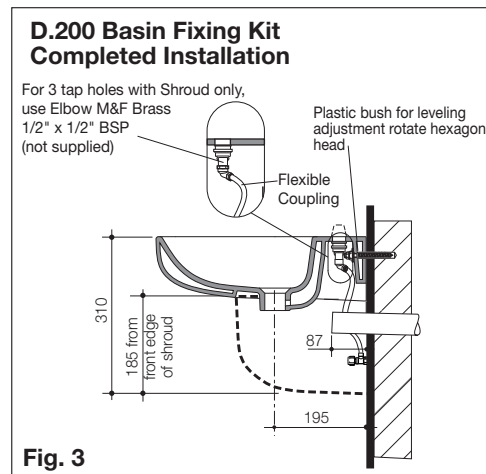

Fig. 3
- 4- Locate basin onto the Fixing Screws on the wall. Insert plastic bushes, metal washers and fasten to wall with fixing nut. To complete assembly as detailed in **Fig. 3**.
- 5- The Plastic Bush allows for leveling adjustment if required by rotating the hexagonal head bush, the basin will be slightly raised or lowered as shown in **Fig. 3**.
- 2- Ensure basin is secured and plumbing is connected. The brass elbow shown in **Fig. 3** should only be used on 3 tap hole basins with shroud (not supplied).